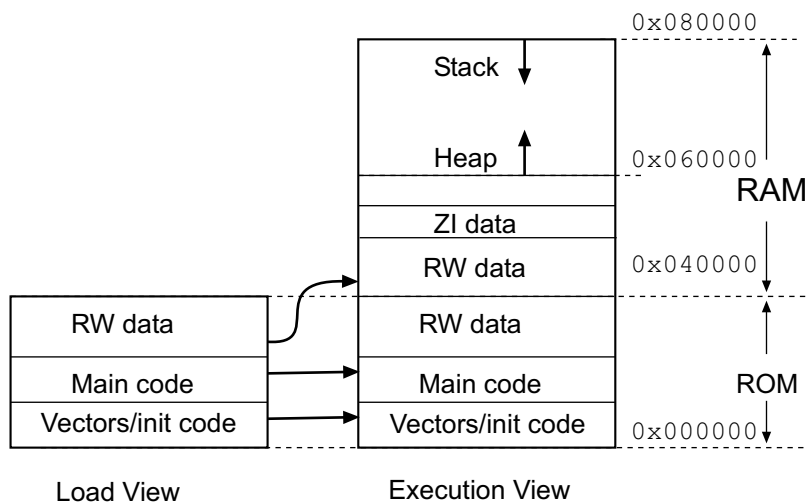

Figure 7-5 Memory map for simple scatter loading
Figure 7-5 shows:
- ROM is fixed at 0x0 and is not remapped (see Figure 7-5)